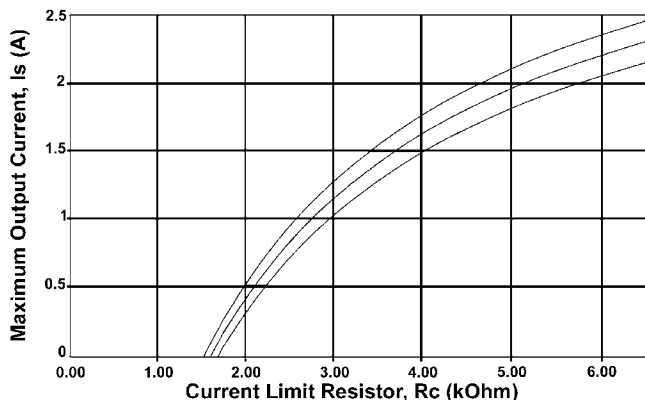

**Figure 26. Adjustable Heat and Cool Current Limits**
**Figure 26** diagrams setting current limits independently using trim pots. The 5 kΩ single turn trim pots shown adjust the maximum output currents from 0 to 2.2 A.